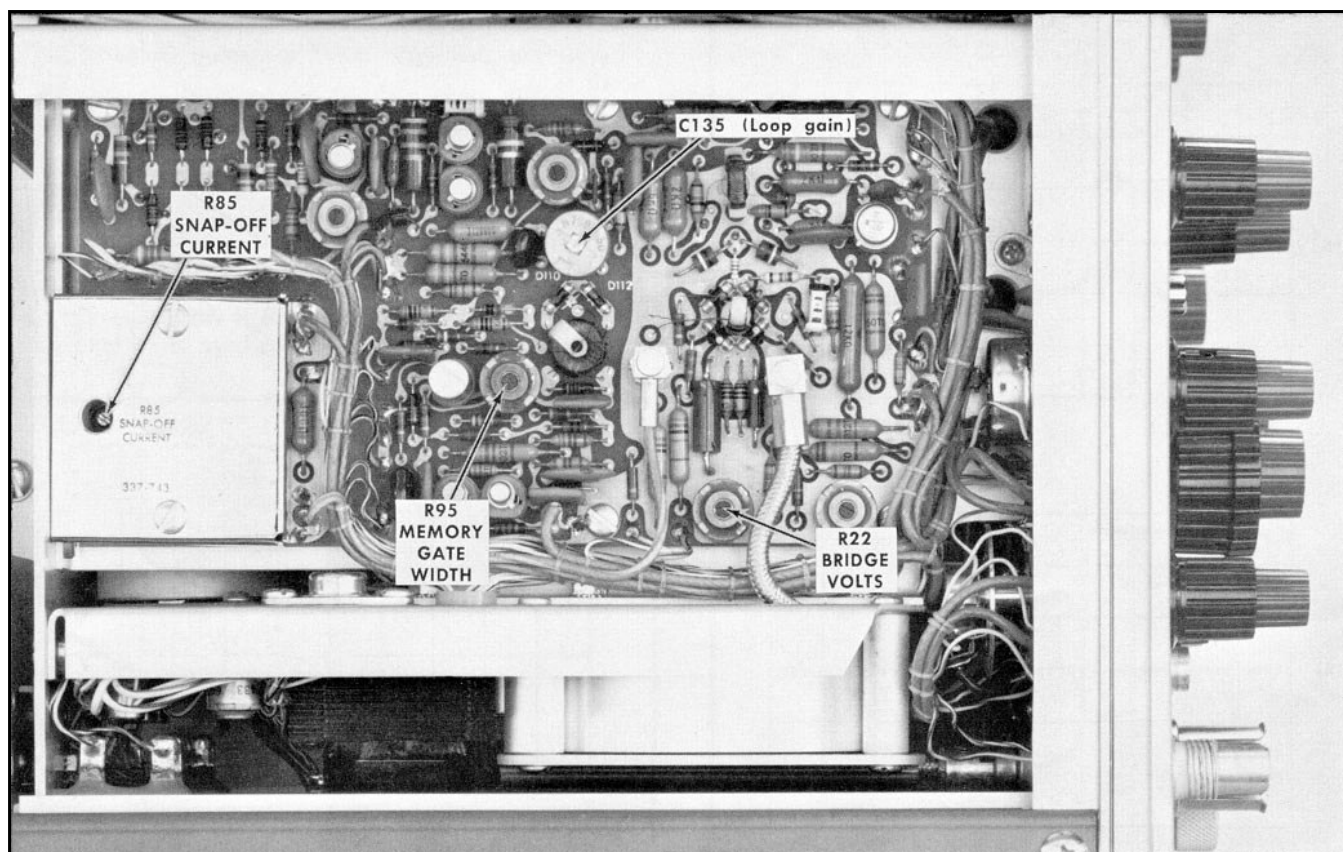

Fig. 5-33. Adjustments on left side of Type 1S1 for loop gain, bridge standoff and risetime.
1. Check the adjustment of R95 (MEMORY GATE WIDTH) by turning the control slightly each way from its original position and observing the change in the waveform. See Fig. 5-33 for the location of R95.
1. Adjust R85 (SNAP-OFF CURRENT) for a risetime of 340psec. (Turn the control counterclockwise to decrease risetime.) Do not decrease risetime below 330psec, since this will adversely affect the transient response of the system. See Fig. 5-33 for the location of R85.